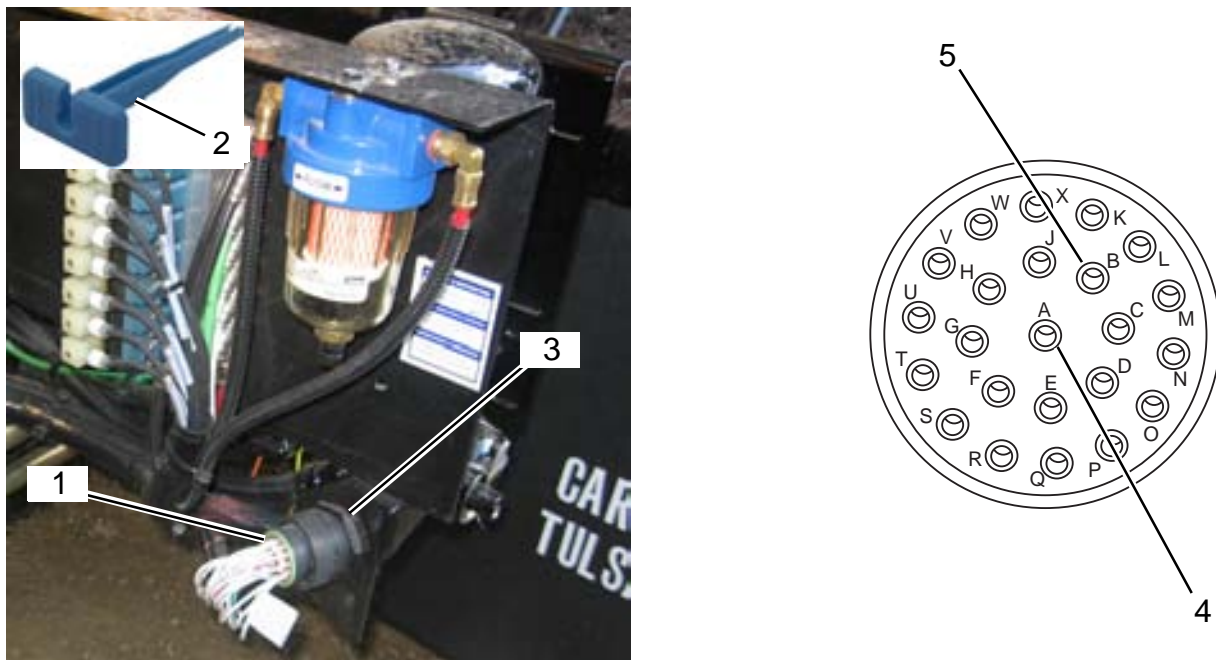

Figure 2
- Locate the 23-pin Deutsch connector (**Figure 2, 1**) for the MAC solenoid valve stack. The MAC solenoid stack can be located in several locations. The most common locations are behind the chassis front fender on the curb side of the Packer body, behind the chassis cab or on the front head of the Packer body.
- Use the blue Deutsch removal tool (**Figure 2, 2**) provided in the kit, remove pins "A" and "B" from the mating Packer harness connector (**Figure 2, 3**) mounted in the bracket. Pin "A" (**Figure 2, 4**) corresponds with the pink wire (Pump Power). Pin "B" (**Figure 2, 5**) corresponds with the black wire (Ground).